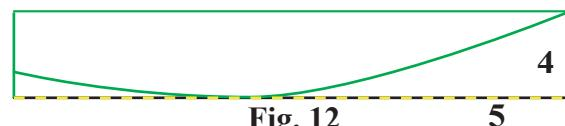

Fig. 12
Step 1. Lines 1 through 5 are no longer needed. Select lines and press **Delete** key, **Fig. 12**.